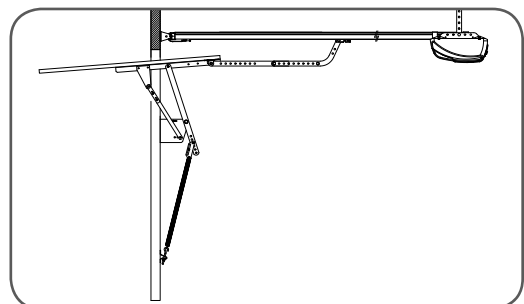

Fig. 21
- Assemble the bent and straight arms as shown in (Fig. 21) with bolts and nuts supplied in the accessory pack. Always use both the bent and straight arms.